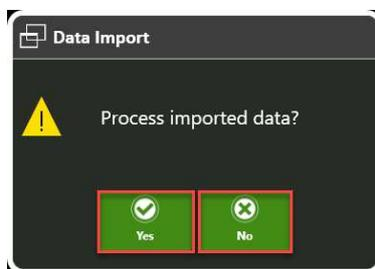

Figure 56. Dialog to choose to process the manually imported data.
5. This will open the *Data Import* dialog (Figure 56).